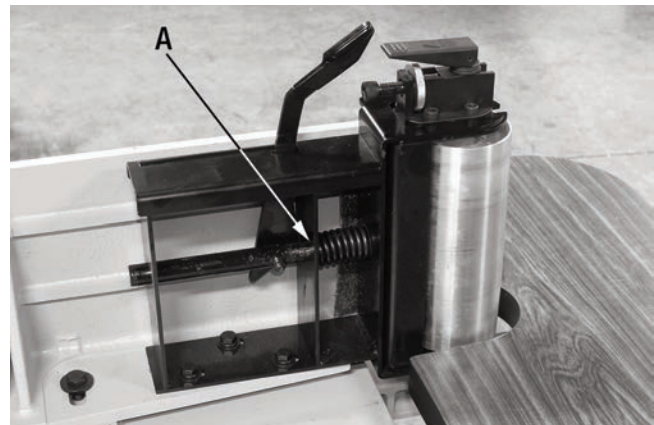

FIGURE 15
It is important to keep the sanding belt tension mechanism (A) Fig.15 lubricated and free of dust and debris. Clean mechanism and reapply all purpose grease to the spring and shaft every 6 months or as needed.